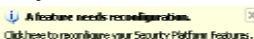

Figure 1
2. The Ultra TPM utility appears in the system tray after it is installed. To create a TPM key and save it to USB flash drive(s), right-click on the Ultra TPM icon  and select **Initialize**. A screen in Figure 1 will appear. Select a USB flash drive and click the **Enable Backup to BIOS** ^(Note 2) check box, or select at least two USB flash drives. Click **OK** and then enter the user password ^(Note 3) created with Infineon Security Platform Settings Tool. Click **OK** to store the key on your USB flash drive or in the BIOS.